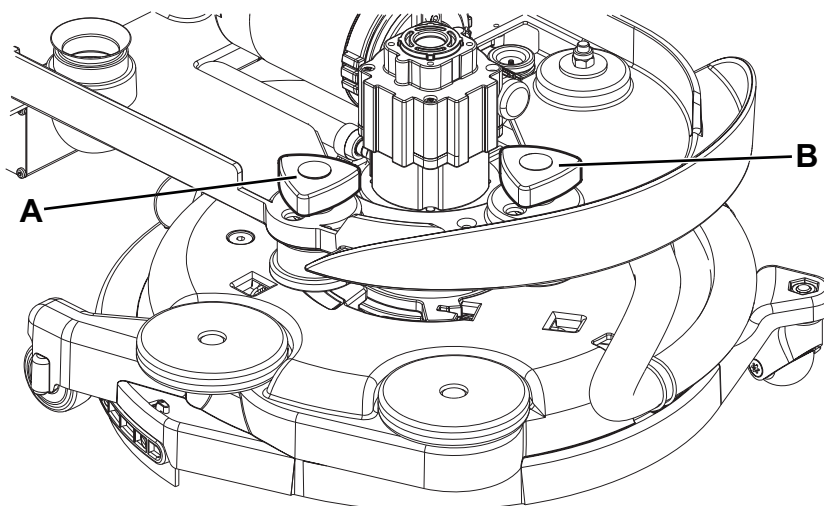

Figure 5
2. Adjust the machine speed with the handwheel (A, Fig. 5):
3. If it is difficult to keep the machine moving straight-forwardly because it deviates to the left or to the right, adjust the handwheel (B) by turning it clockwise or counter-clockwise.